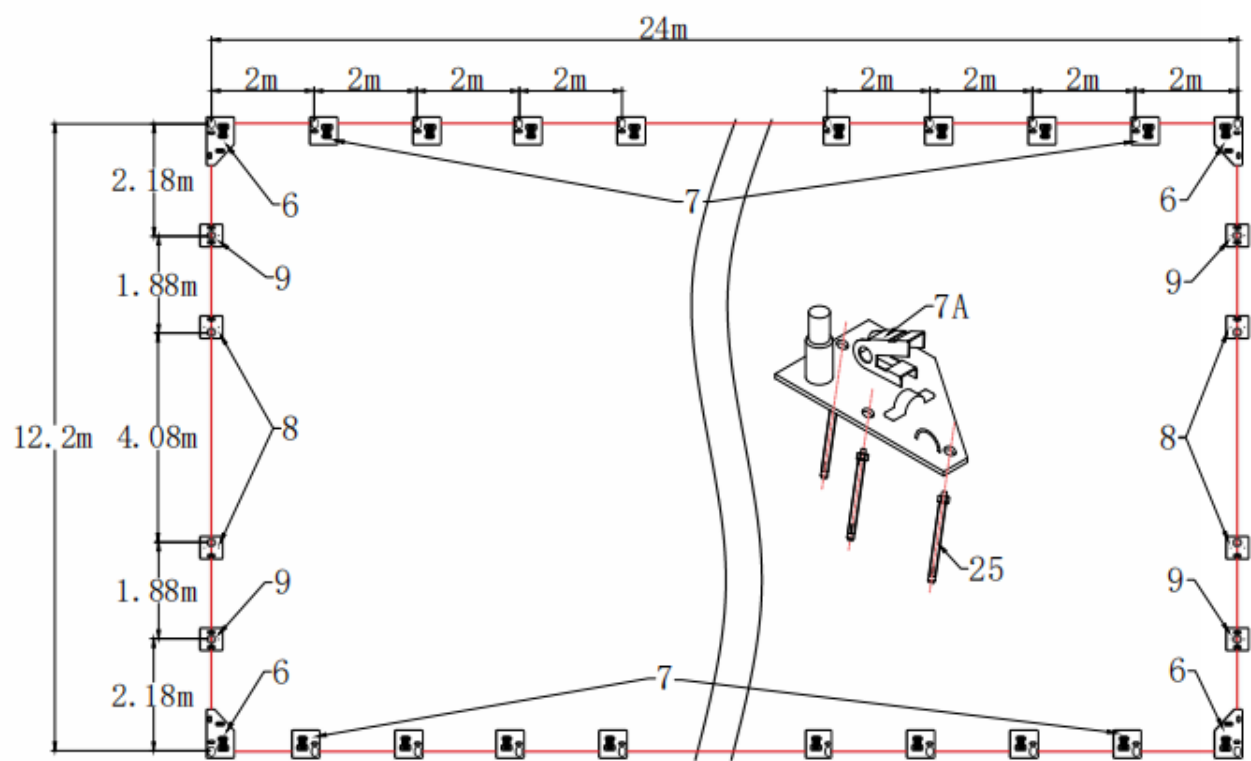

Figure 2
Please refer to the diagram (Figure 2) to place the base plates:
2. As Figure 2 shows, base plate (No.6,7) is equipped with 3 pieces of expansion screw (No.25) and base plate (NO.8,9) is equipped with 2 pieces of expansion screw (No.25).